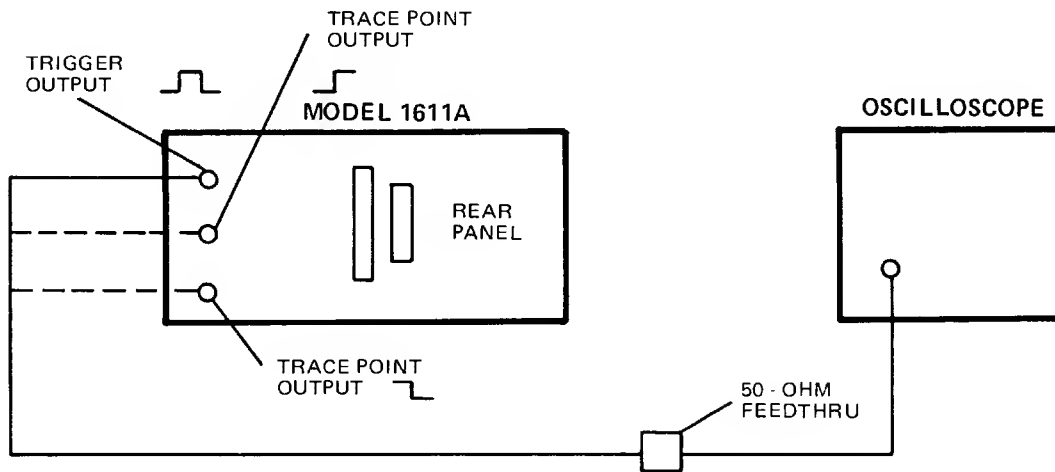

Figure 4-10. Rear-panel Outputs Test Setup
- Connect TRIGGER OUTPUT to oscilloscope as shown in figure 4-10 and verify that TRIGGER OUTPUT pulses have maximum amplitude greater than +2.0V and minimum amplitude less than +0.4 V.